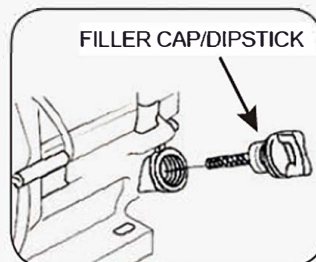

Figure 9
2. Remove the oil fill cap/dipstick to add oil. (See **Figure 9**)